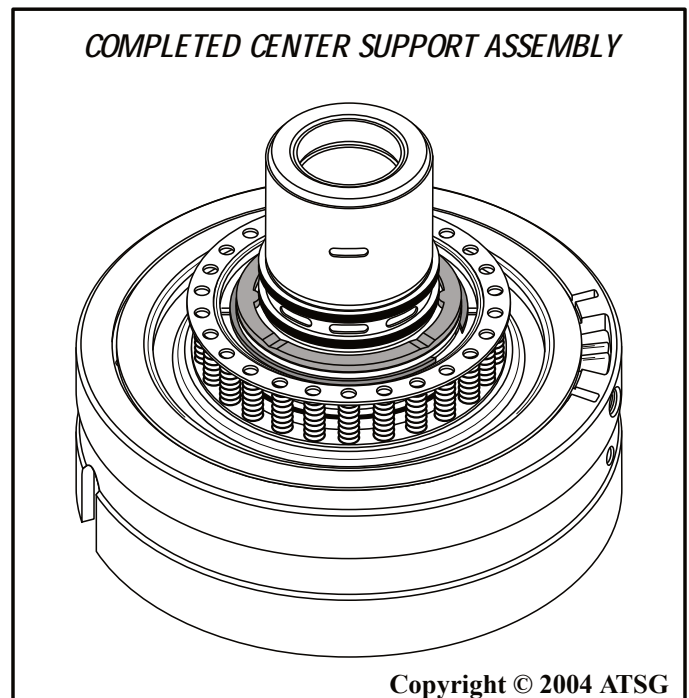

Figure 115
13. Set the completed center support assembly, as shown in Figure 115, aside for final assembly.